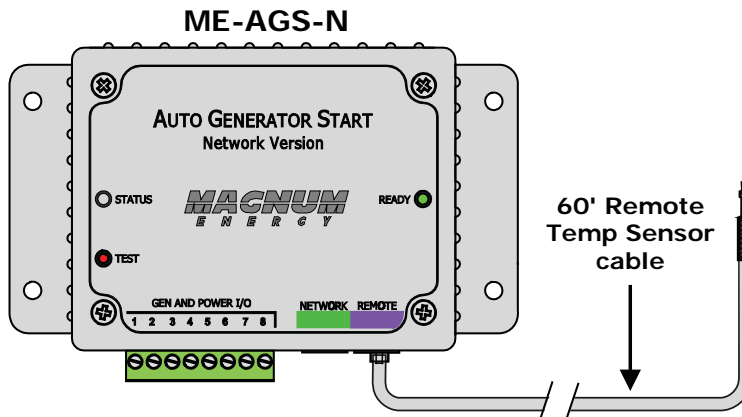

Figure 2-3, Remote Temp Sensor Connection
- 7 **REMOTE Connection Port (purple label):** a RJ14 port (6P6C – 6-position, 6-contact female connection) that provides the connection point for the remote temp sensor cable (Figure 2-3).
If using the temp autostart feature, connect the plug-in end of the temp sensor cable to the REMOTE (purple) port of the AGS controller, and then place the other end (with sensor) in the area you wish to monitor (see Figure 2-3). The temp sensor cable is 60 ft long.